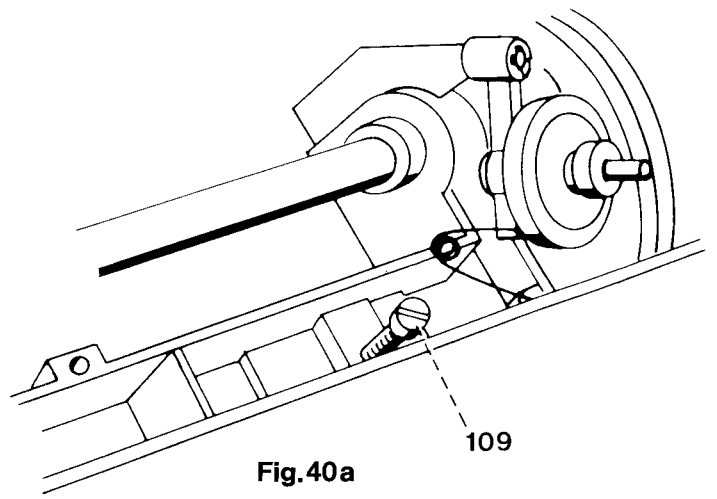

Fig. 40a
- Replace the cover plate and secure it in position with screw 109 (Fig. 40a).